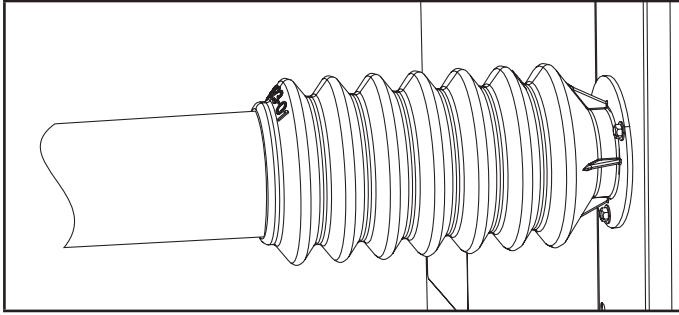

FIGURE 10. Install Armaflex Over End of Sleeve and Clamp
- 4 - Install a piece of field-supplied Armaflex over the band clamp and the end of the line set joint sleeve to prevent sweating (see figure 10).